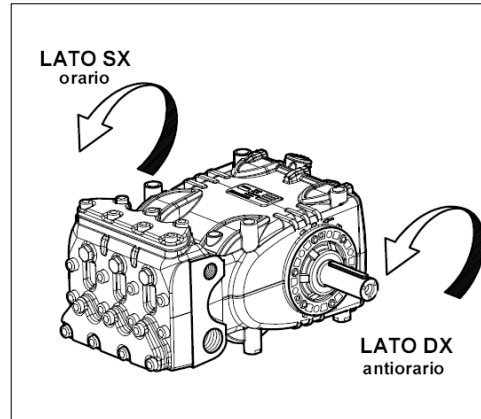

fig. 5
An arrow situated on the crankcase near the shaft indicates the correct sense of rotation. Standing in front of the pump head, the sense of rotation must be as shown in fig.5.
N.W. Fig. 5 shows a right version.